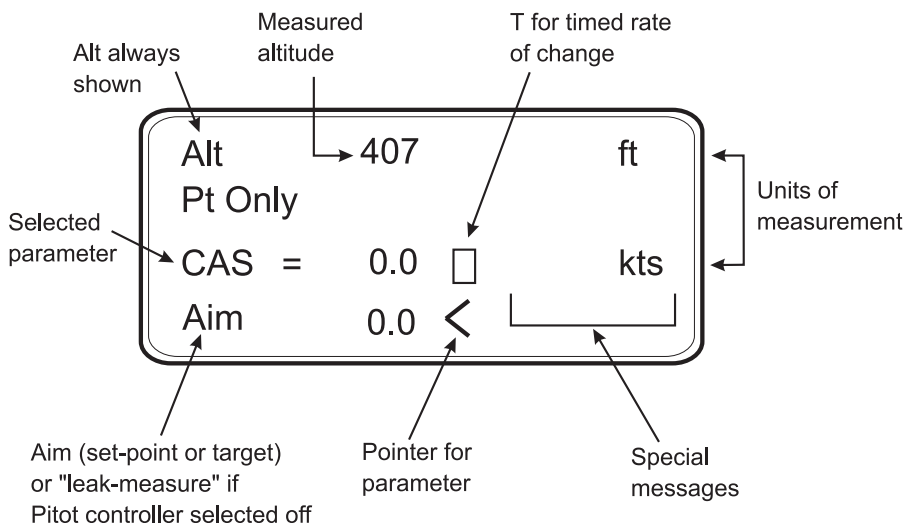

FIGURE 3-9 Pt ONLY DISPLAY
3.11 Pt Only Display (Fig 3.9)